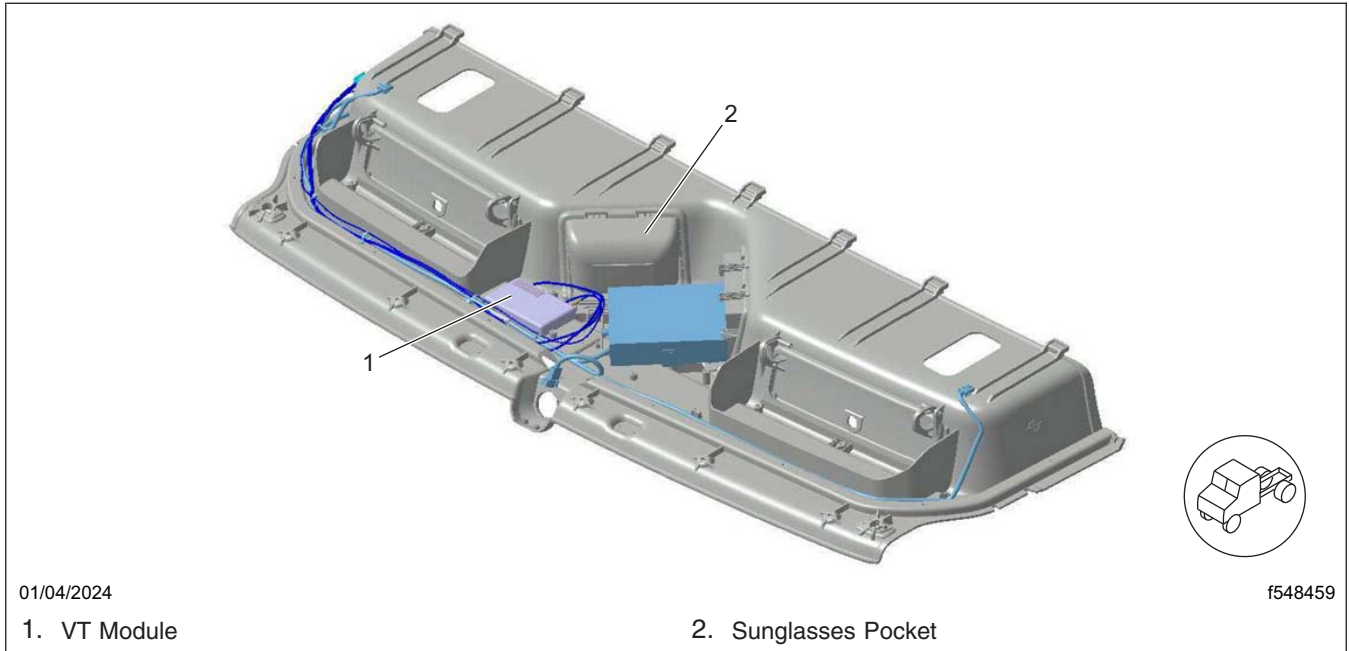
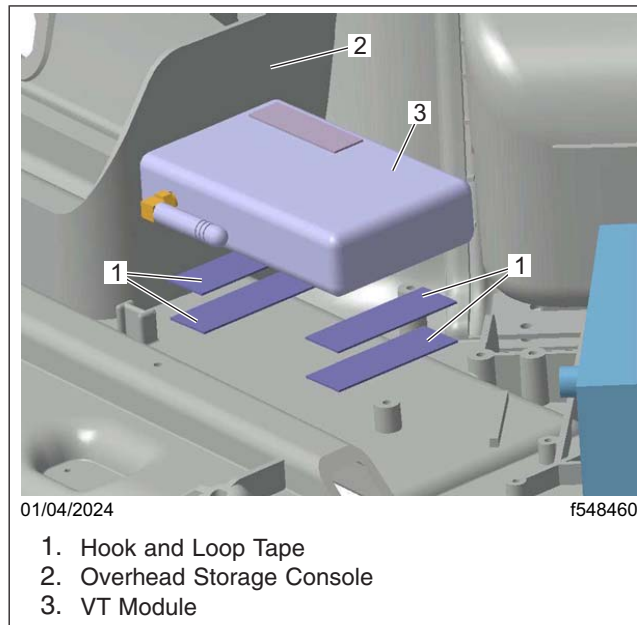

Fig. 14, VT Module Installation in the Overhead Console
Fig. 15, VT Module Installation
4. Use hook and loop tape (velcro) to install the VT Module on the overhead console in the location shown in Fig. 14 and Fig. 15.